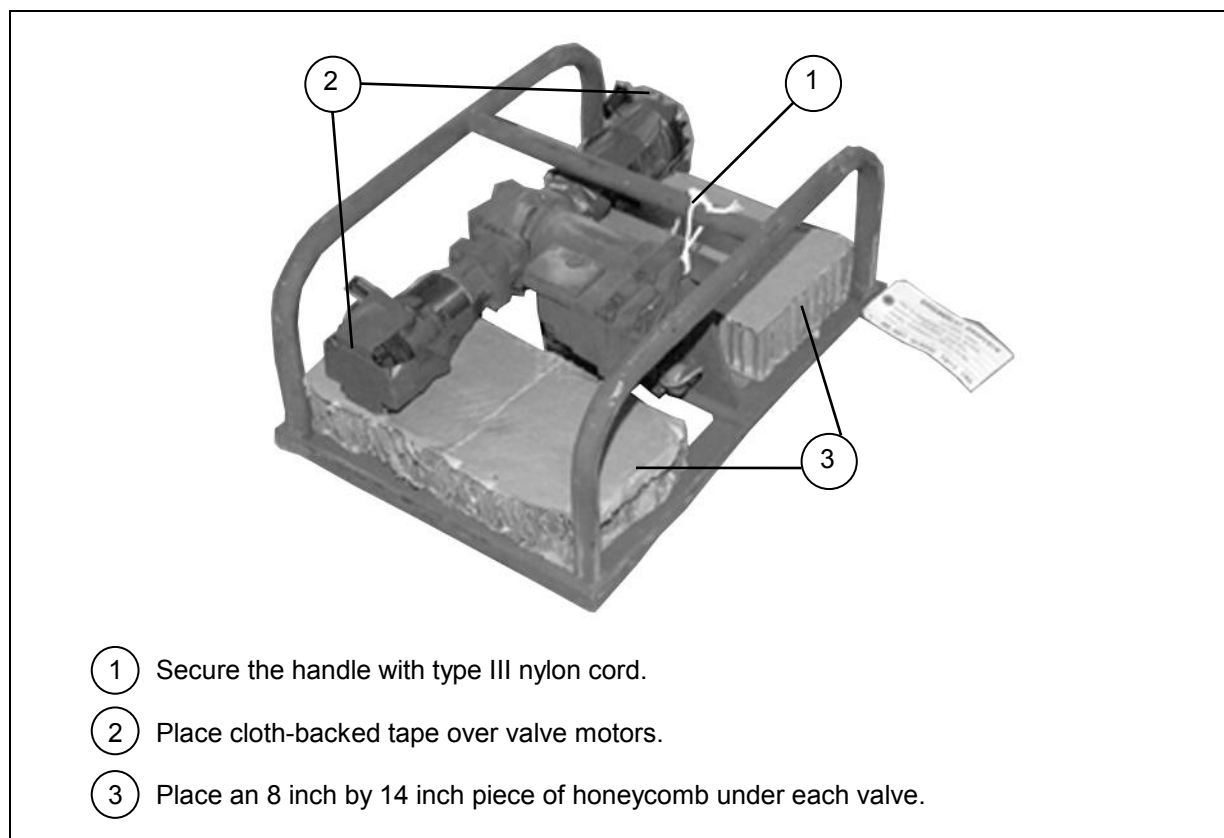

Figure 20-8. Explosion-Proof Motor Secured
- Prepare and secure the explosion-proof motor as shown in Figure 20-8.